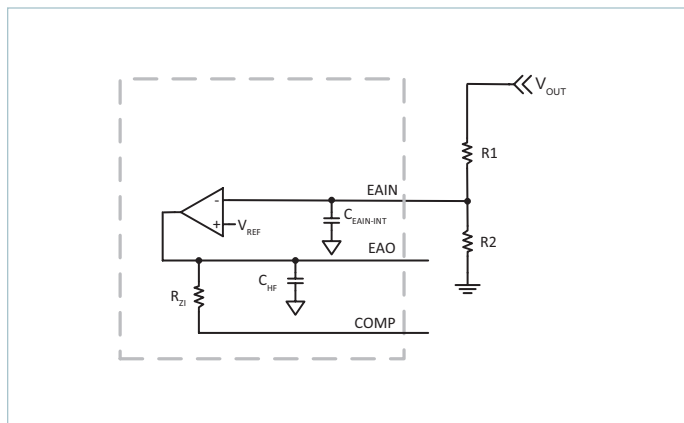

Figure 87 — External resistor divider network
The PI352x-00 family of Buck Regulators utilizes V_{REF} , an internal reference for regulating the output voltage. The output voltage setting is accomplished using external resistors as shown in Figure 87. Select R_2 to be at or around $1k\Omega$ for best noise immunity. Use Equations (2) and (3) to determine the proper value based on the desired output voltage.